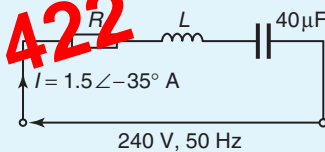

Figure 15.19
- Find the values of resistance R and inductance L in the circuit of Fig. 15.19.